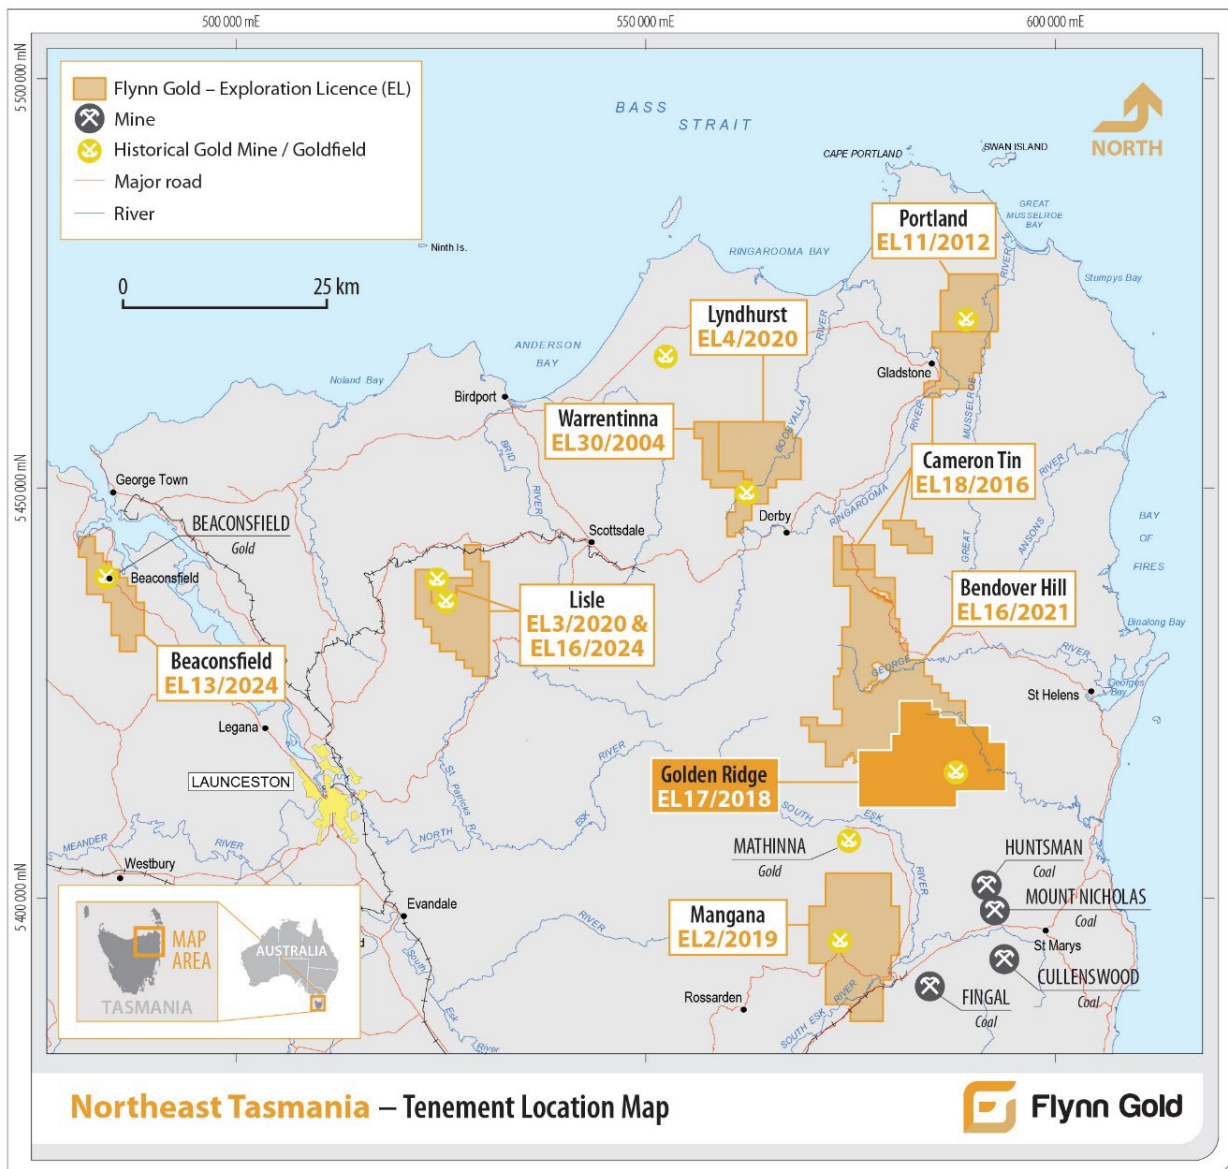

Figure 1 – Location of Flynn Gold tenements in NE Tasmania.
**Flynn Gold Limited (ASX: FG1, “Flynn” or “the Company”)** is pleased to report results from the recently completed drilling program at the Grenadier Prospect, located within the Company’s 100%-owned Golden Ridge Project in northeast Tasmania (see Figure 1).